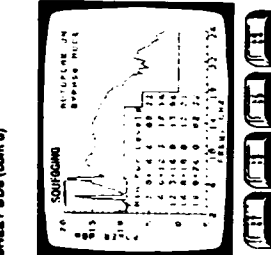

Figure 6-34. Example
Step 1: Specified is an acceptable YTM output level, but only if you have a much power being applied to the YTM input. See Figure 6-34 for an example of step 1. This condition can occur in Band 1 because the RF signal level (rather than some harmonic of the RF signal) is applied to the YTM. To prevent resequencing in Band 1, the RF signal is changed to a self power level before it is applied to the YTM. Therefore, if resequencing occurs, first try to readjust the clamp circuit.